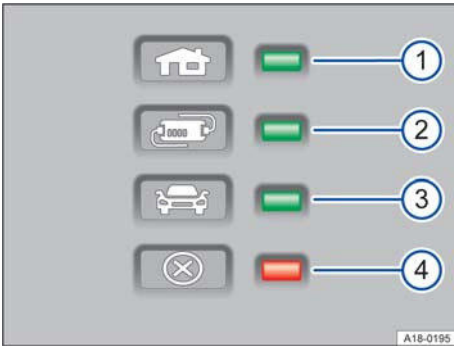

Fig. 2 Warning lamp on the charging cable protection unit.
The charging connector is de-energised by the electronic protection unit → Fig. 2 until it is inserted in the vehicle's charging socket.
One or more indicator lamps → Fig. 2 ①, ②, ③ light up green.
Display → Fig. 2	Meaning
① Lit up	Charging cable is connected to the mains network.
①, ② lit up, ③ flashing	High-voltage battery is being charged.
①, ② and ③ lit up	Charging process ended. High-voltage battery has been charged.
ⓘ Charging cable supplied outside Norway often cannot be used for recharging from mains sockets in Norway. The → Fig. 2 ① warning lamp does not function due to the different power grid.